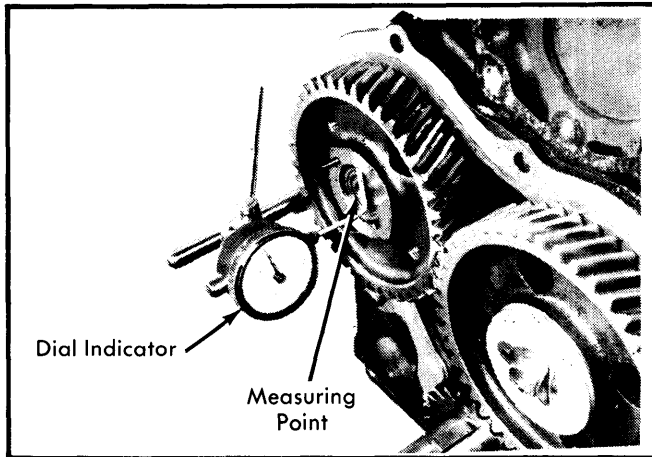
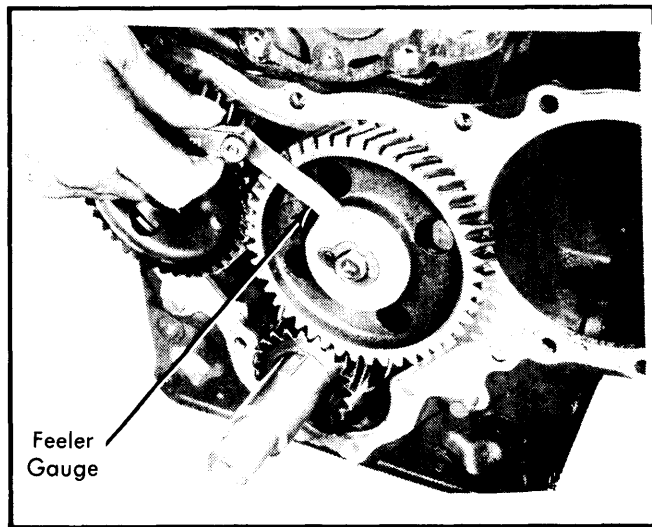

Fig. 13 Camshaft Gear End Play
Fig. 14 Checking Idler Gear End Play
2) Check camshaft end play with a dial indicator. End play should be between .002-.008" (0.05-0.20 mm). Replace camshaft thrust plate if end play is excessive. See Fig. 13. Check idler gear end play with a feeler gauge between gear and thrust plate. End play is .002-.006" (0.05-0.15 mm). If measurement is excessive, replace thrust plate. See Fig. 14.